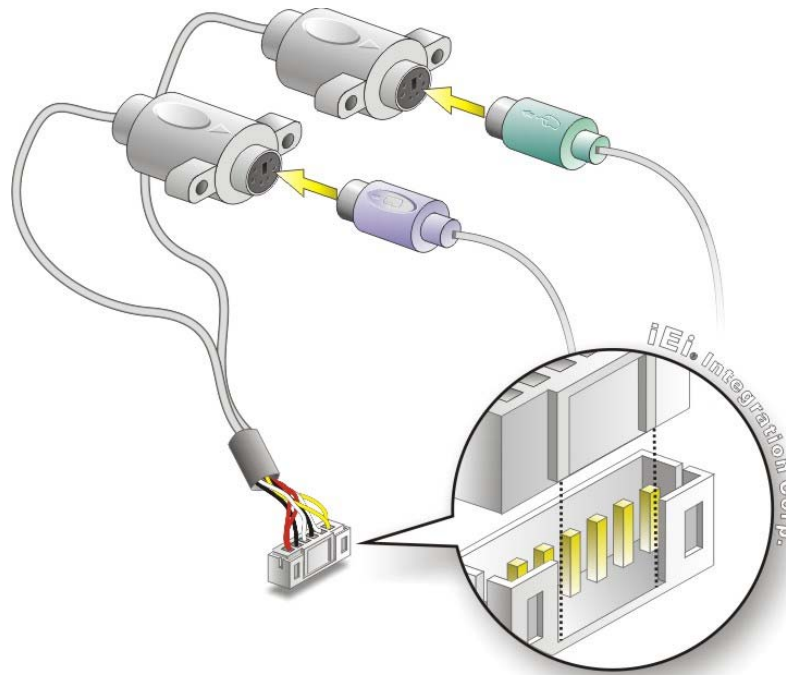

Figure 4-9: Keyboard/mouse Y-cable Connection
Step 2: **Align the connectors.** Correctly align pin 1 on the cable connector with pin 1 on the WAFER-PV-D5251/N4551 keyboard/mouse connector. See Figure 4-9.
Step 3: **Insert the cable connectors** Once the cable connector is properly aligned with the keyboard/mouse connector on the WAFER-PV-D5251/N4551, connect the cable connector to the on-board connectors. See Figure 4-9.